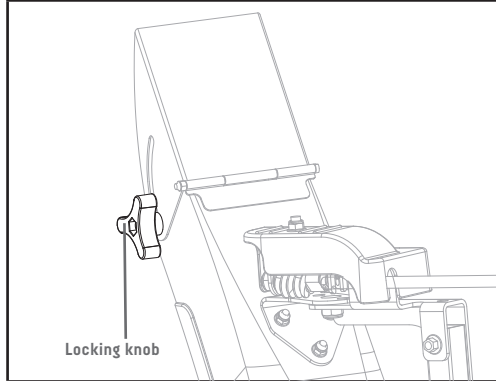

Figure 14
1. Loosen the locking knob to adjust the snow discharge deflector to a suitable height (Fig. 14).